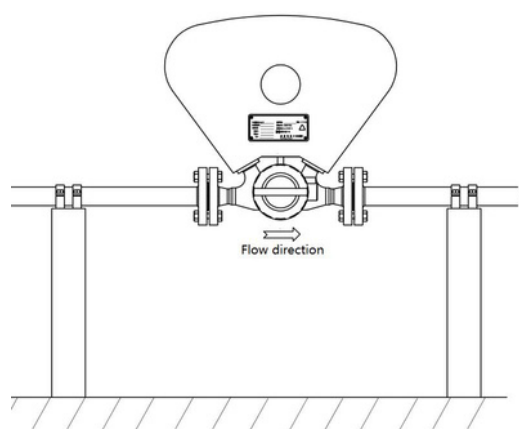

Figure 8.4
(2) When the mass flowmeter measures gas, it is recommended to install the shell upwards. As shown in fig. 8.4, prevent liquid from accumulating in the vibration tube of the sensor.